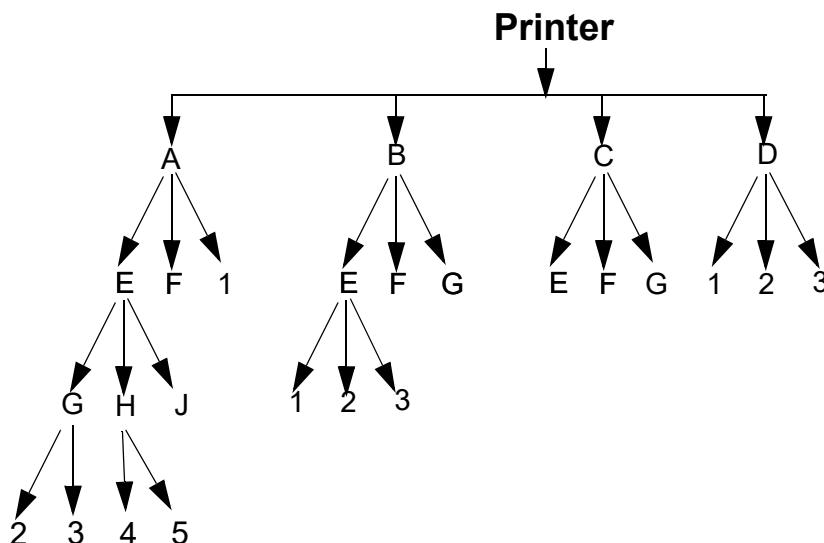

Figure 7-1: Graphical Representation of the Different Subassemblies and
- An alphabet is assigned to the main assemblies of a system and each sub assembly under the main assembly. See Figure 7-1.
A natural number (1,2,3.....) is assigned to the stand alone parts (in ascending order) through out the breakdown of main assemblies. See Figure 7-1.